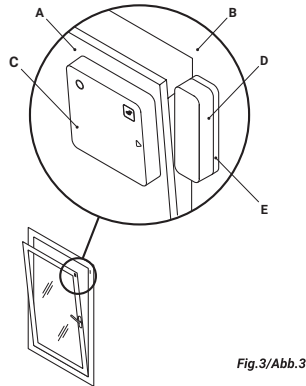

Fig. 3/Abb. 3
If you want to monitor a door or window that tilts and turns, mount the sensor unit (C) on the door or the window (A) and the magnet (D) on the frame (B) as shown in Fig. 3.